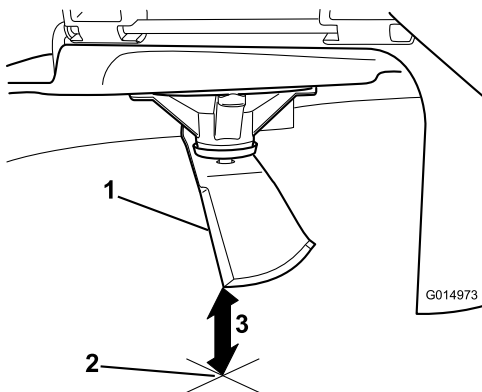

Figure 73
3. Measure from the tip of the blade to the flat surface (Figure 73).